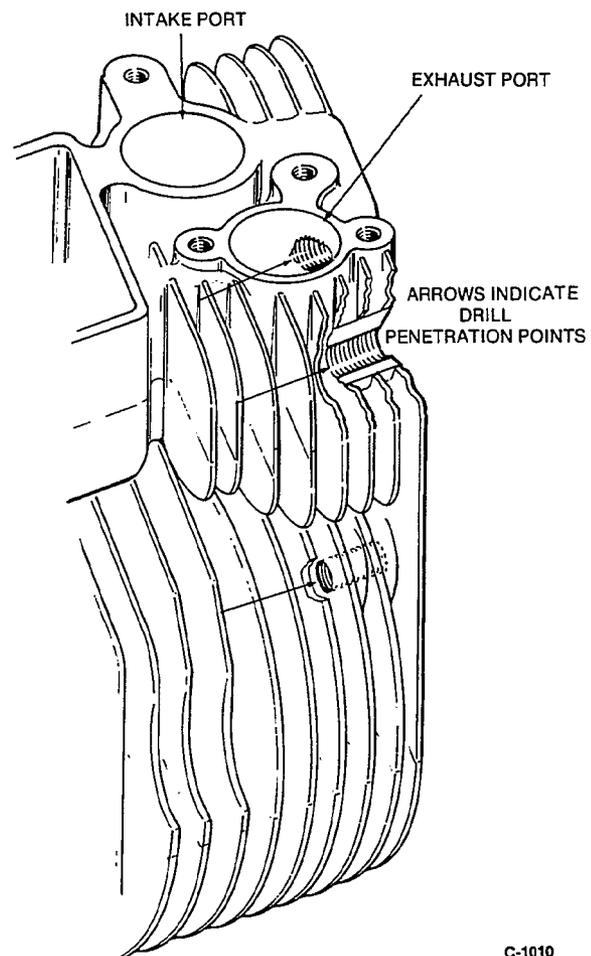

FIGURE 33. DRILLING PROCEDURE
7. Insert the small size bushing into the fixture over the hole(s) with damaged threads and lock it in place. With the bushing as a guide, drill out the damaged threads using a 27/64 size drill bit. If drilling out the holes on the SIDE of the block, drill through to the fourth fin (Figure 33). If drilling out the holes at the TOP of the block, it will be necessary to remove the corresponding intake or exhaust manifold. The drill bit should penetrate completely into the port but should not contact the opposite wall of the port (Figure 33).